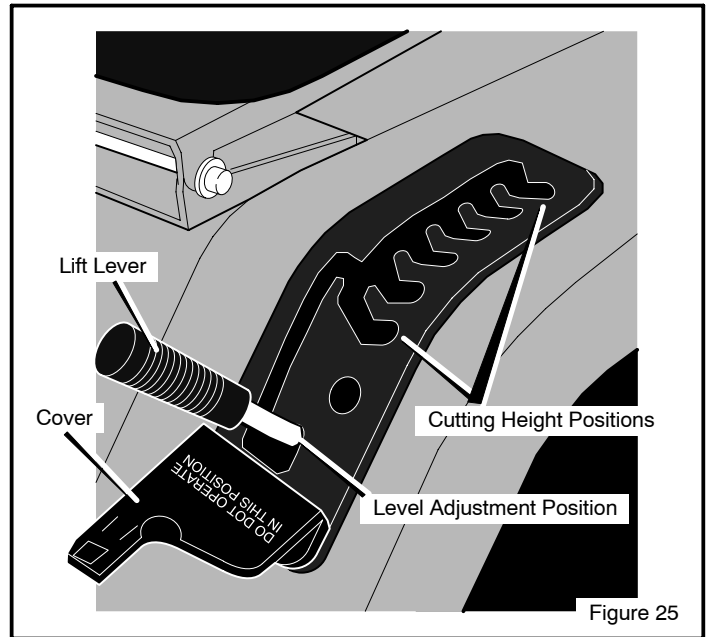

Figure 25
5. Move the **lift lever** to the LEVEL ADJUSTMENT position (Figure 25).